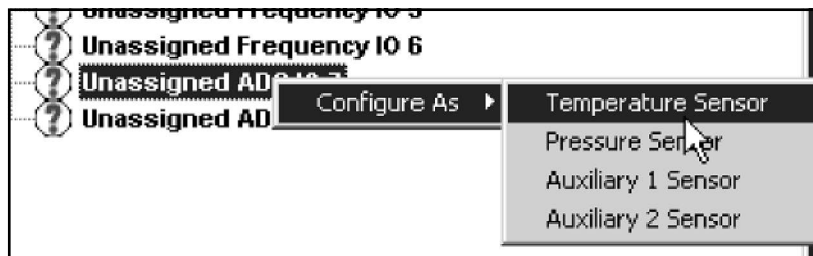

Figure 56: Accessing the Sensor Configuration
4. Under Unassigned I/O, right click on **Unassigned ADC IO 7** and select the desired configuration option (see *Figure 56* below).